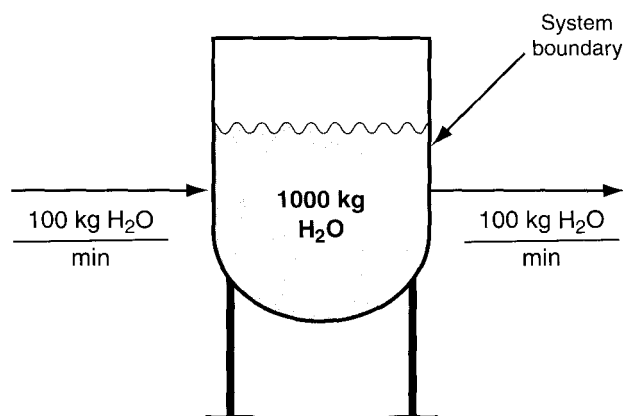

Figure 2 Open steady – state system.
Figure 2 is an example of an **open system** (also called a **flow system**) because material crosses the system boundary.
Because the rate of addition of water is equal to the rate of removal, the amount of water in the vessel shown in **Figure 2** remains constant at its original value (**1000 kg**). We call such a **process** or **system** a **steady – state process** or a **steady – state system** because
1. The **conditions** inside the process (specifically the amount of water in the vessel in Figure 2) **remain unchanged with time**, and
Equation 6.1 can apply to **moles** or any **quantity** that is **conserved**. As an example, look at **Figure 6.7** in which we have converted all of the mass quantities in **Figure 2** to their equivalent values in moles.